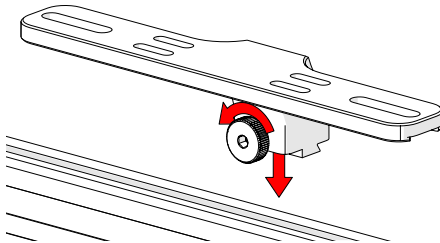

Fig. 98 - Loosen knob and mount to dovetail groove
1. Loosen the knob and align dovetail nut with the dovetail groove (Fig. 98).